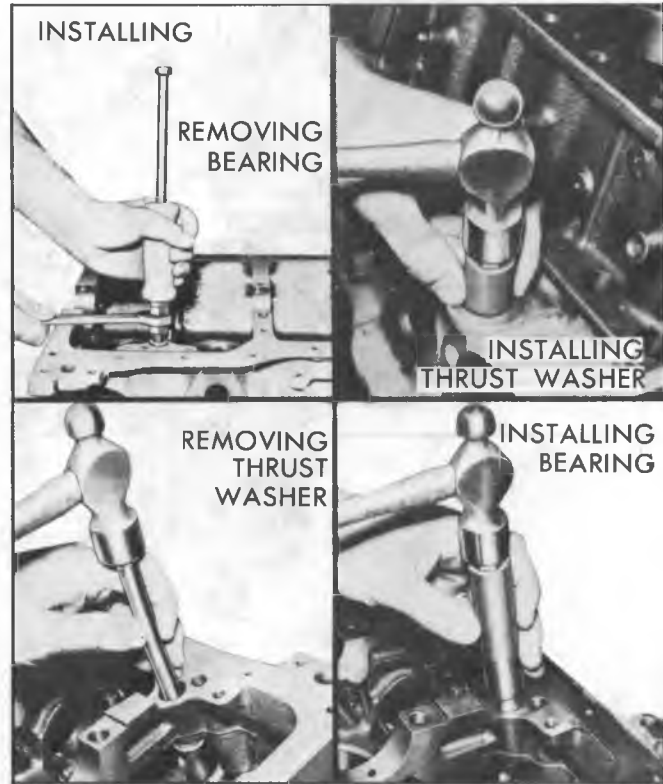

Fig. 73—Replacing Distributor Bearing and Thrust Washer
1. With oil pump and distributor removed install Tool J-9534 into bushing and using a slide hammer, remove the bushing (fig. 73).